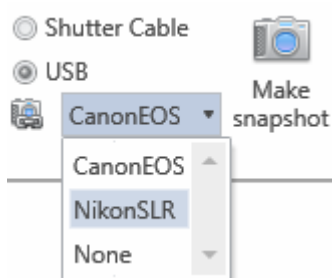

Figure 7.
1. Select camera control via USB. Select your camera in the drop-down menu. To check the camera, press “Make snapshot” button (Fig. 7).